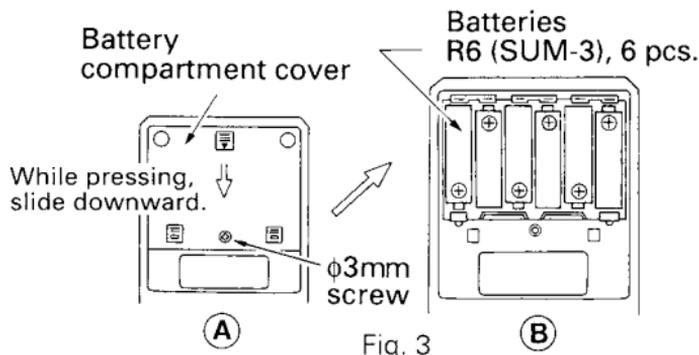

Fig. 3
When this happens, replace the batteries with new ones. Refer to Fig. 3 for replacing the batteries.
2. Unfasten the screw from the battery compartment cover on the back of the unit. While pressing the rectangular protrusion in the center of the cover as shown in Fig. 3 (A), slide it down to remove it. Insert new batteries and align them according to the battery directions shown in Fig. 3 (B).